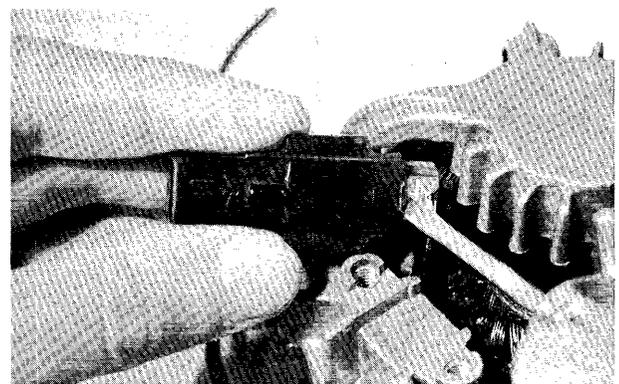

Figure 6-30
Step 4: Support the brush holder assembly with one hand and insert a sharp screw driver between the bent-over tab of the connector clip and the end of the plastic brush holder. With a twisting motion, carefully pry the connector clip out of the brush holder as shown in Fig. 6-30. Be careful not to strain or break the wire where it is attached to the connector clip.